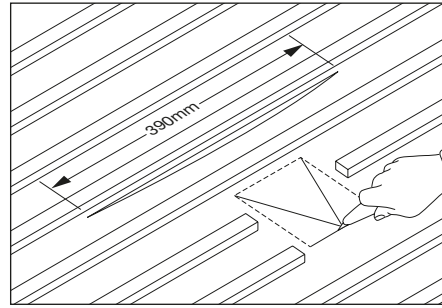

Fig. 1 – Make aperture in underlay
Note: Make aperture in underlay. For Plain and Anglia tiles, battens will need to be cut to create sufficient aperture (Fig. 1).
- 4 Make a horizontal cut in underlay, 390mm long, at a distance 150mm above bottom edge of tiling batten above unit and slide soaker tray under batten and through slit in underlay (Fig. 1).